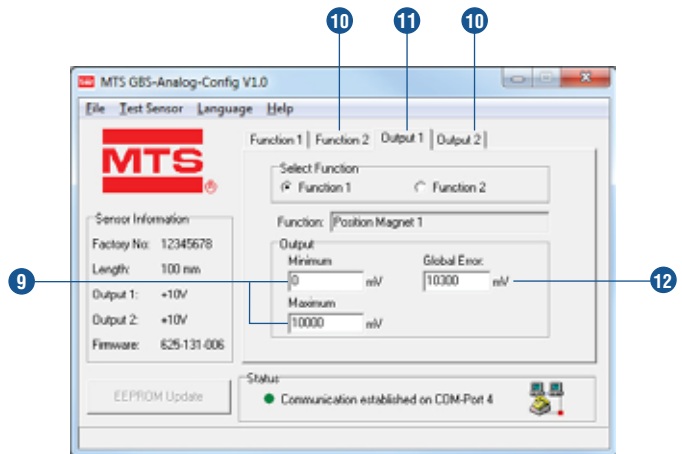

Fig. 39: Example of tab controls
- 9 The field **Output Minimum** indicates the current or voltage value which should be output at the startpoint of the selected function. The output value pertaining to the endpoint must be specified in field **Output Maximum** (Fig. 39).
- 10 On tabs **Function 2**, **Output 2**, the second analog output can be set (Fig. 39).
- 11 On tab **Output 1** the corresponding analog output signals can be allocated (Fig. 39).
- 12 Unless a position magnet is missing or if it is in the sensor's dead zone, i.e. out of measuring range, **Global Error** is output. The error value can be adjusted within **-0.7...20.3 mA** or **-0.4...10.4 VDC** (Fig. 39).